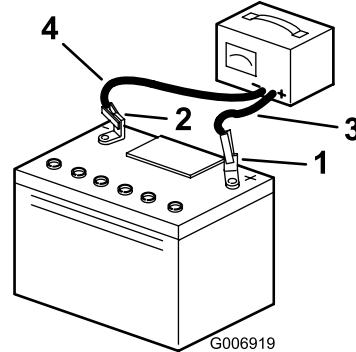

Figure 26
- Disconnect the charger leads from the battery posts (Figure 26).